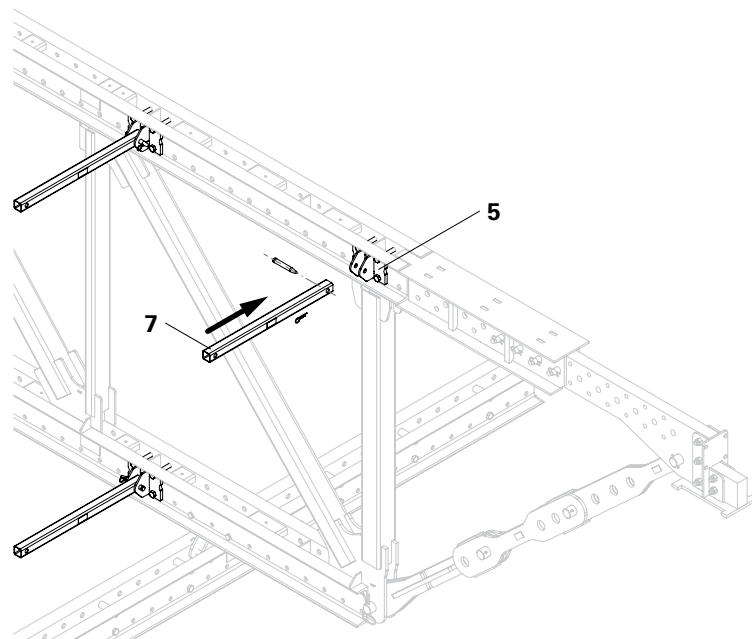

Fig. A3.05
- If a single truss or truss package is coupled to this single truss, the Coupling Posts (7) are mounted on the truss package. This facilitates on-site assembly of the package. (Fig. A3.05)